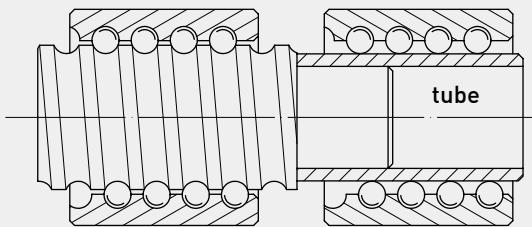

Fig 4.9 The method of separating the nut from the screw spindle
- (10) Excessive preload increases the friction torque and generates heat which reduces the life expectancy. But insufficient preload reduces stiffness and increases the possibility of lost motion. Recommends that the maximum preload used for CNC machine tools should not exceed 8% of the basic dynamic load C.
- (11) When the nut needs to be disassembled from/assembled to the screw spindle, a tube with an outer dia. 0.2 to 0.4 mm less than the root diameter (ref. M37) of the balltracks should be used to release/connect the nut to from/to the screw spindle via one end of the screw spindle shown in Fig. 4.9.